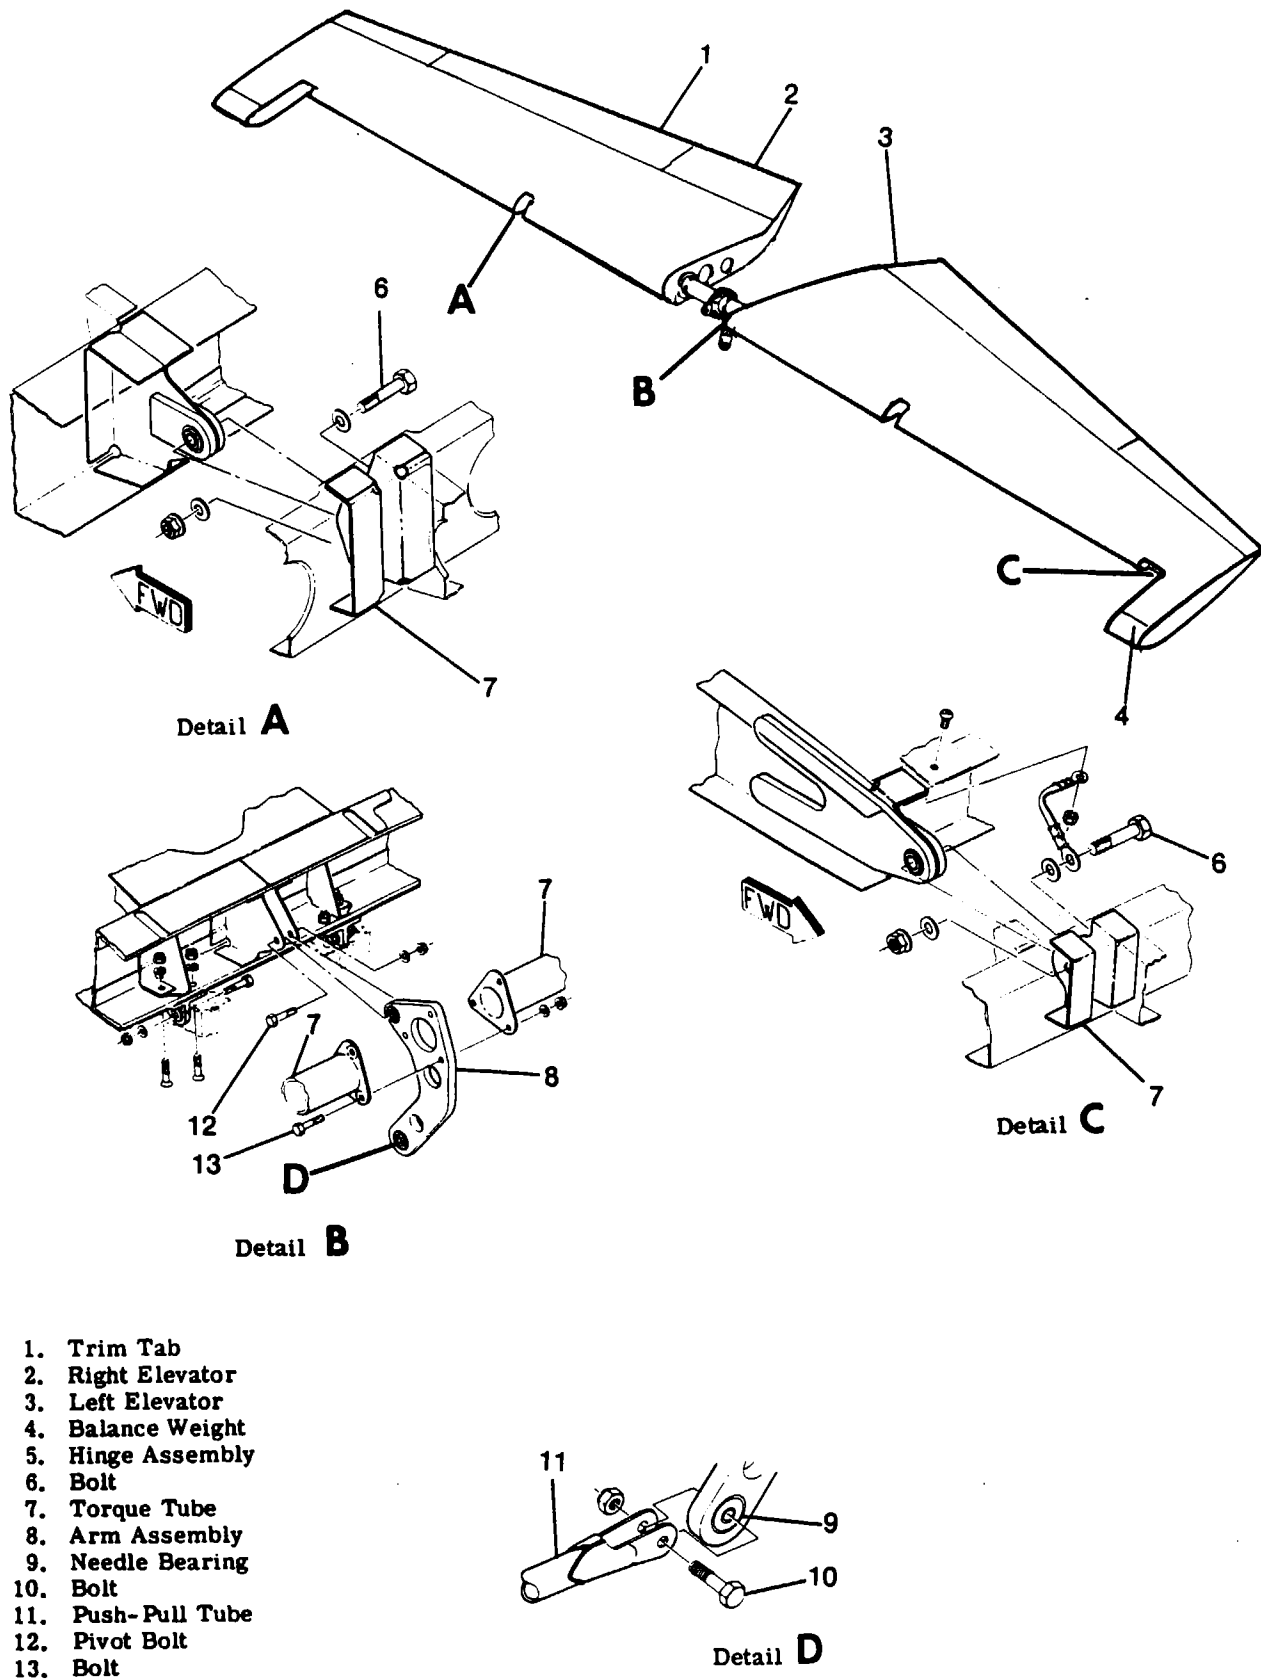

Figure 8-2. Elevator Installation
8-5. ELEVATORS. (Refer to figure 8-2.)
- Remove bolts (6) from elevator hinges (5).
- Set right hand elevator maintaining 0.18" dimension specified in figure 8-2.
- When reinstalling bolts (13) install a washer under the head of each bolt and under each nut.
8-10. ARM ASSEMBLY. (Refer to figure 8-2.)